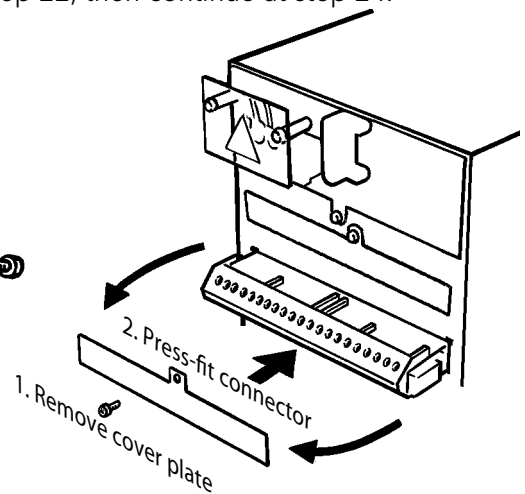

Figure 10 Fitting the connector
24. If not already fitted, fit the connector by removing the relevant blanking plate and push-fitting the connector until it clicks into place (figure 10). The connector has orientation lugs to prevent insertion the wrong way up. Clip the screwdriver guide into place, and fit the label to the connector (23 to 44).